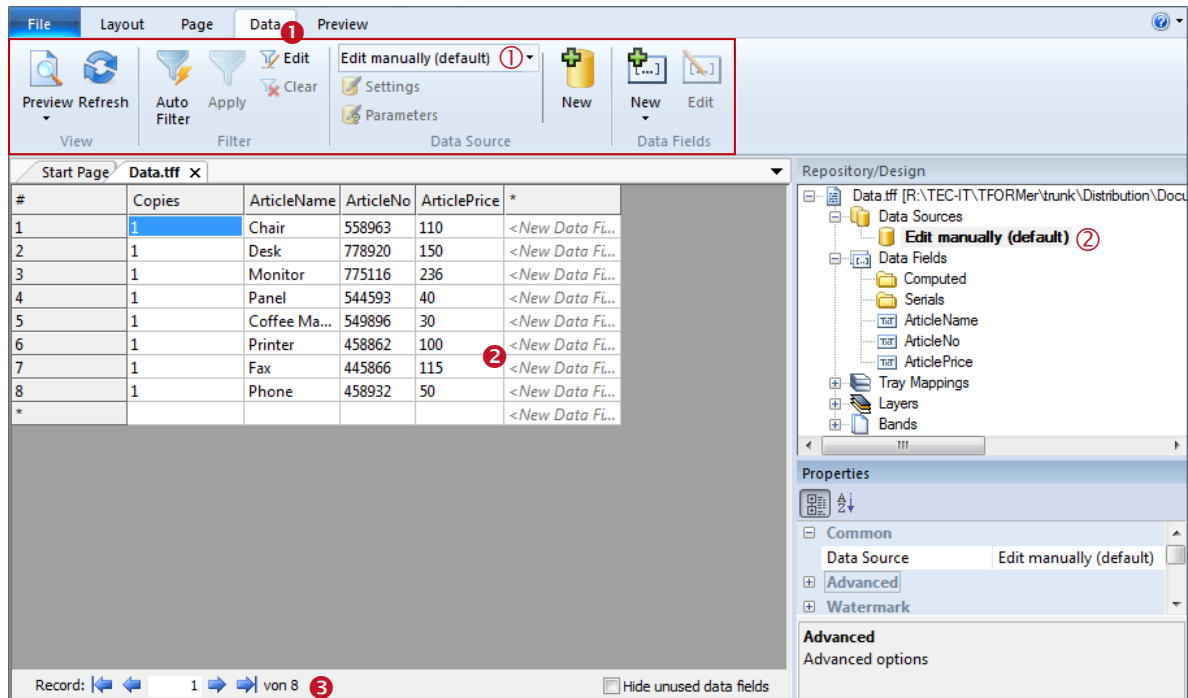

Figure 63: Data View
To switch to a specific data source use the menu command **Data Source |** Edit manually (default) and select the respective item from the drop-down list (see also Figure 63, ❶). Alternatively you can